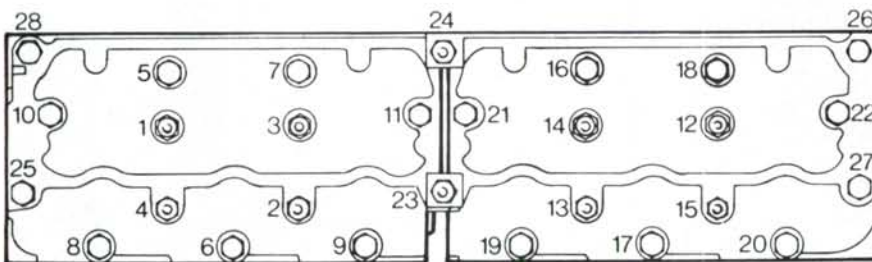
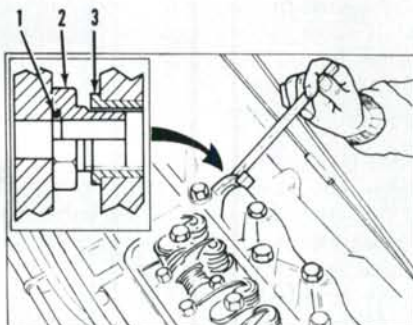

Fig. 72—Use sequence shown when tightening head bolts on six-cylinder engines.
Fig. 74—On six-cylinder engines, a connector (2) joins coolant passages between front and rear cylinder heads.
79. Remove muffler, hood and side panels. Disconnect battery ground cable. Drain coolant from radiator, then disconnect upper radiator hose. Disconnect and remove cab heater pipes (if so equipped) from engine. Remove fan assembly from thermostat housing. Disconnect oil supply pipes from front and rear of cylinder heads. Remove air cleaner assembly and hose. Remove connecting tube from intake manifolds on Model 1594. On all models, remove exhaust manifold. Remove fuel injector leak-off pipe and high pressure pipes, then remove injectors. Plug all openings in fuel system to prevent entry of dirt. Disconnect wires and pipes from intake manifolds. Turn coolant connector (2—Fig. 74), located between cylinder heads on left-hand side, clockwise into the front head. Remove valve covers, rocker arm assemblies and push rods. Identify push rods in order of removal so they can be reinstalled in their original positions. Remove cylinder head retaining nuts and bolts, then remove cylinder heads and gaskets.
Thoroughly clean cylinder block and cylinder head surfaces before reinstalling head. Install new head gaskets and a new water pump outlet gasket. Install new washers under cylinder head retaining bolts and nuts noting placement of "V" groove of washers between the two heads (Fig. 73). Tighten cylinder head retaining bolts and nuts evenly in steps, following sequence shown in Fig. 72, to a final torque of 135 N·m (100 ft.-lbs.). Install a new "O" ring (1—Fig. 74) in recess of coolant connector (2), located between the heads, and use Loctite hydraulic sealant on threads of connector. Turn connector counter-